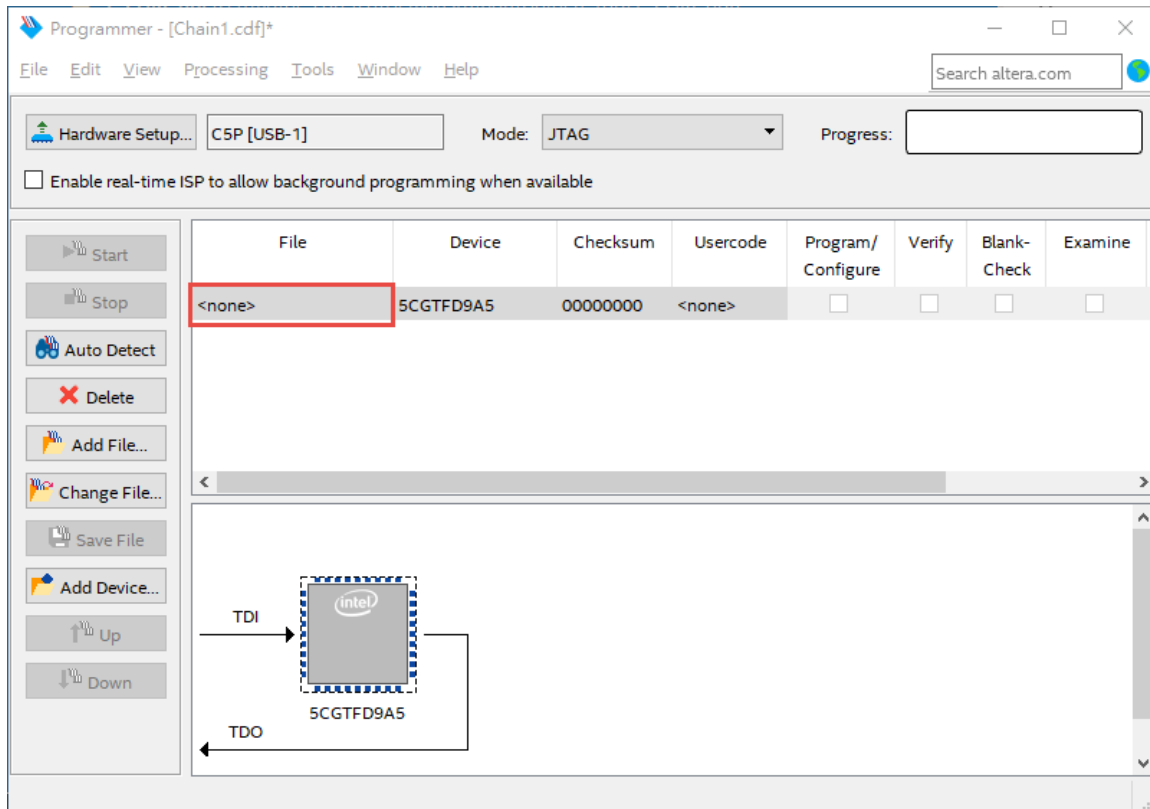

Figure 6-7 Quartus Prime Programmer detects the FPGA device
2. Click **Auto Detect** and then select the correct device. The FPGA device should be detected, as shown in **Figure 6-7**.
3. Double click the red rectangle region, as shown in **Figure 6-7** and the **Select New Programming File page** will appear. Select the .jic file to be programmed.
2. Click **Auto Detect**, and then select correct device, FPGA device will be detected, as shown in **Figure 6-7**.
3. Double click the red rectangle region shown in **Figure 6-7**, the **Select New Programming File** page will appear. Select the correct .jic file.